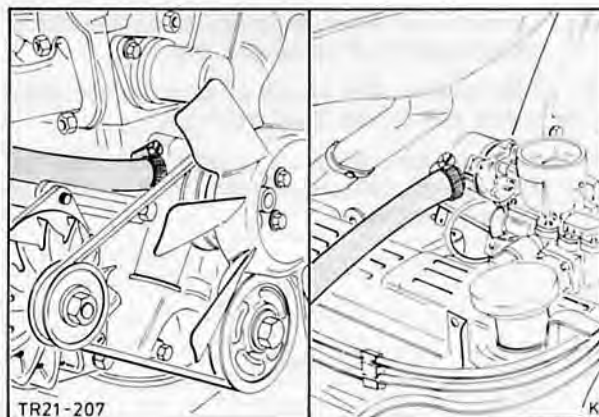

Fig. 15. Detach heater hoses ('B' engine)
8. Remove heater hoses from automatic choke/inlet manifold and water pump, Fig. 15.